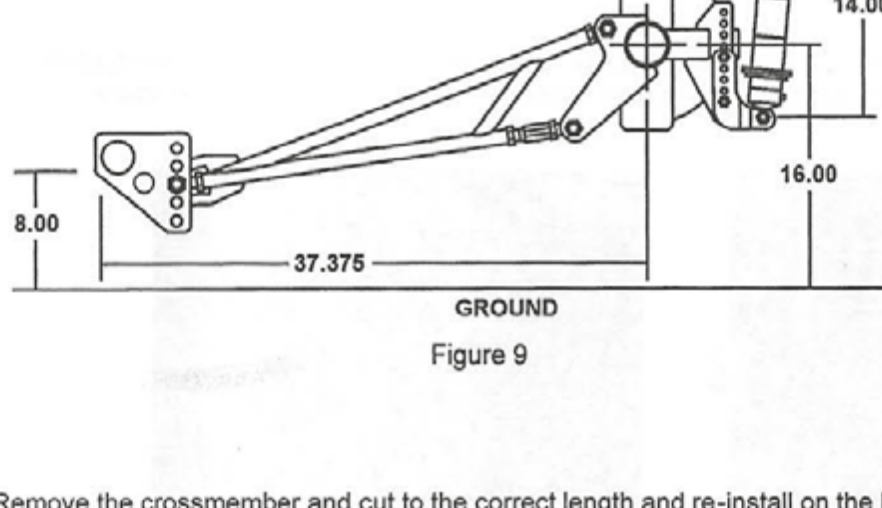

Figure 9
1. **Round Tube Crossmember-** Find and mark the center of the dropped section of the crossmember. Slide two of the crossmember brackets over each end of the crossmember. Utilizing the center bolt hole position in the brackets, bolt the crossmember to the front of the ladder bars. Position the crossmember under the car to determine the mounting position and width. Using the centerline mark, the crossmember should be centered directly under the driveshaft. **NOTE:** The distance from the centerline of the axle to the front edge of the crossmember is approximately 37-3/8". See Figure 9.